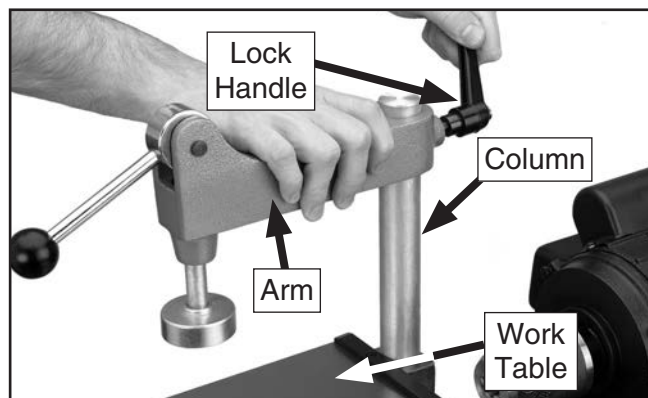

Figure 16. Installing hold-down clamp.
1. Thread the column onto the work table (see **Figure 16**).
2. Thread the lock handle onto the arm (see **Figure 16**), slide the arm onto the column, then tighten the lock handle.